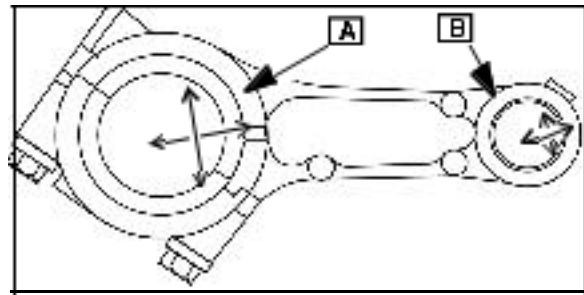

Fig. 9
Measure the crank pin bearing (A) and the piston pin bearing ([B] Fig. 9).
Use a telescoping gauge at approximate 120° intervals and record the readings to get an average dimension, as shown in Fig. 9.